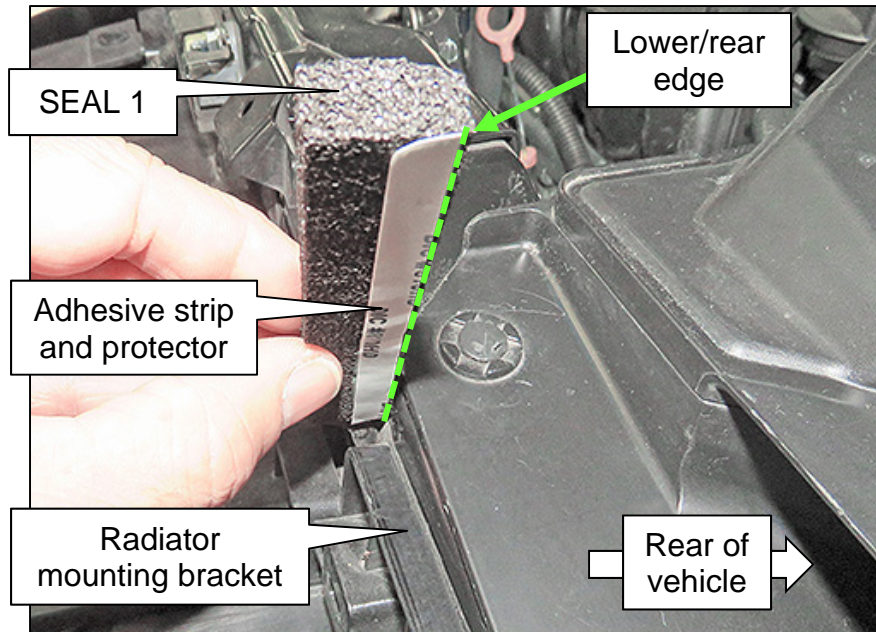
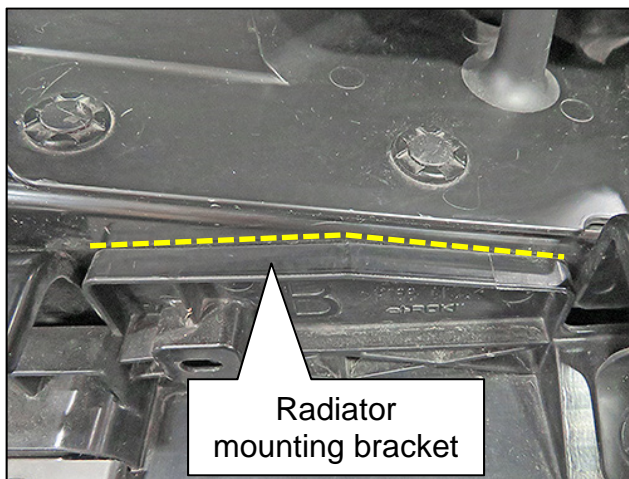

Figure 6
Figure 7
- Confirm that SEAL 1 is oriented with the adhesive strip facing down and toward the rear of the vehicle (Figure 6).
- The lower/rear edge of SEAL 1 (Figure 6) is placed on the radiator mounting bracket where shown in Figure 7,